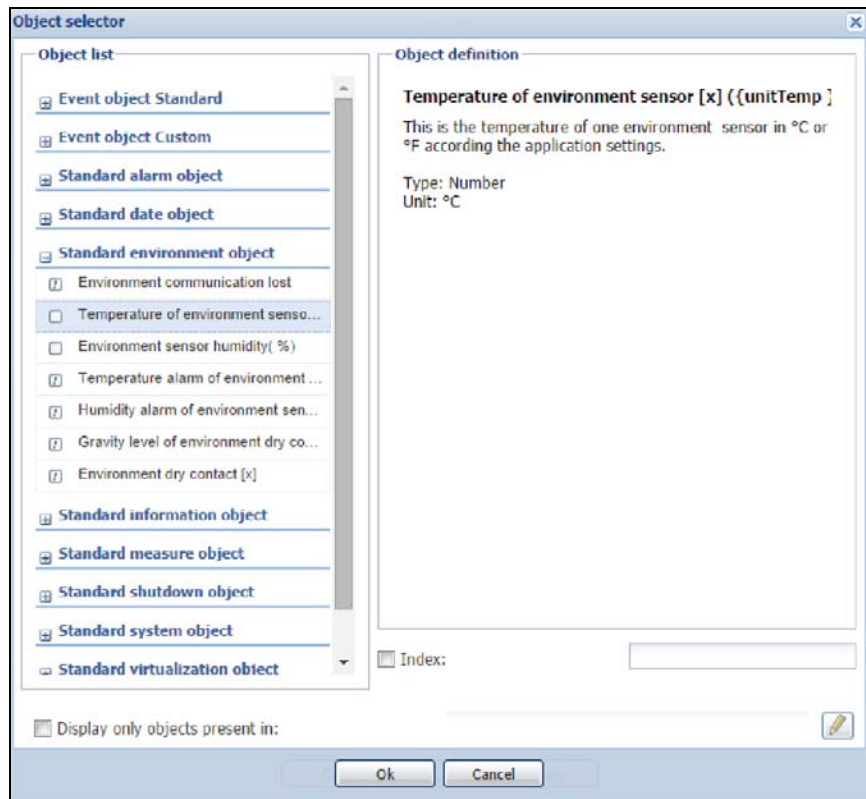
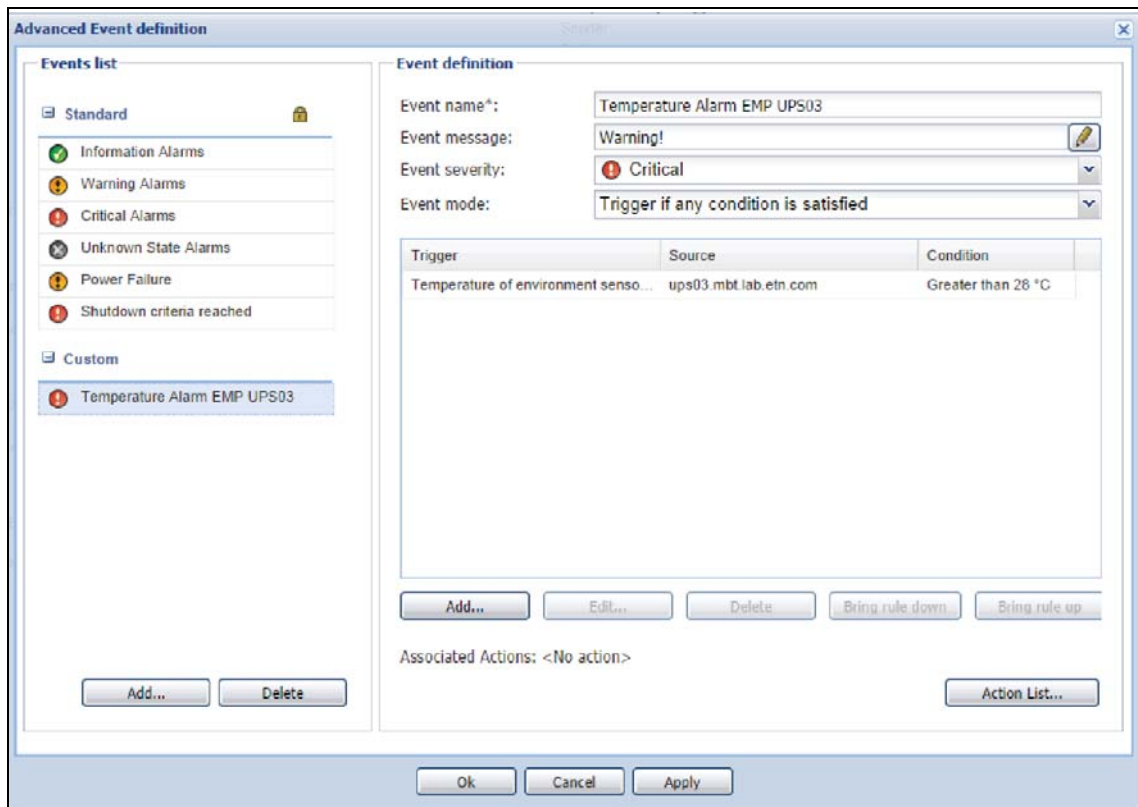

Figure 252. Object Selector
Figure 253. Advanced Event Definition
7. Select the value and click **Ok** (see Figure 252 and Figure 253).